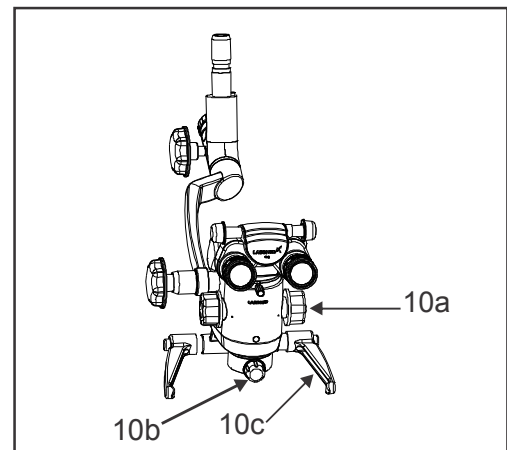

Fig. 10
- 2 Although tension on microscope is factory preset as per the ordered configuration. Still user can adjust up and down force by tuning the knob (B) clockwise or anticlockwise.
- 3 Lock the Up & Down movement of suspension arm using locking knob(C) in fig. 10 after coarse focusing of the attendance area.
Setting up of magnification (Ref. Fig. 10)
- 2 Fine focusing is done through knob (10b) provided on objective as shown in fig. 10